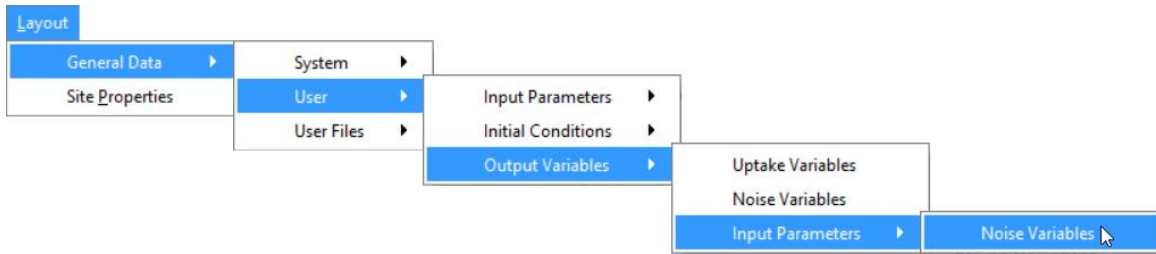

Figure 11-10 – New User-Defined Output Parameters
22. **Save the layout and reload.** This will cause GPS-X to read in your user-defined constants and create the menus associated with them. You will notice that there are now two new menu items under *Layout > General Data > User > Output Variables* as displayed in **Figure 11-10**.